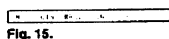

Fig. 15.
- 4 Using Δ or ∇ , select the programme position which you want to move to another and press OK. The colour of the selected position changes. (See Fig. 15.)